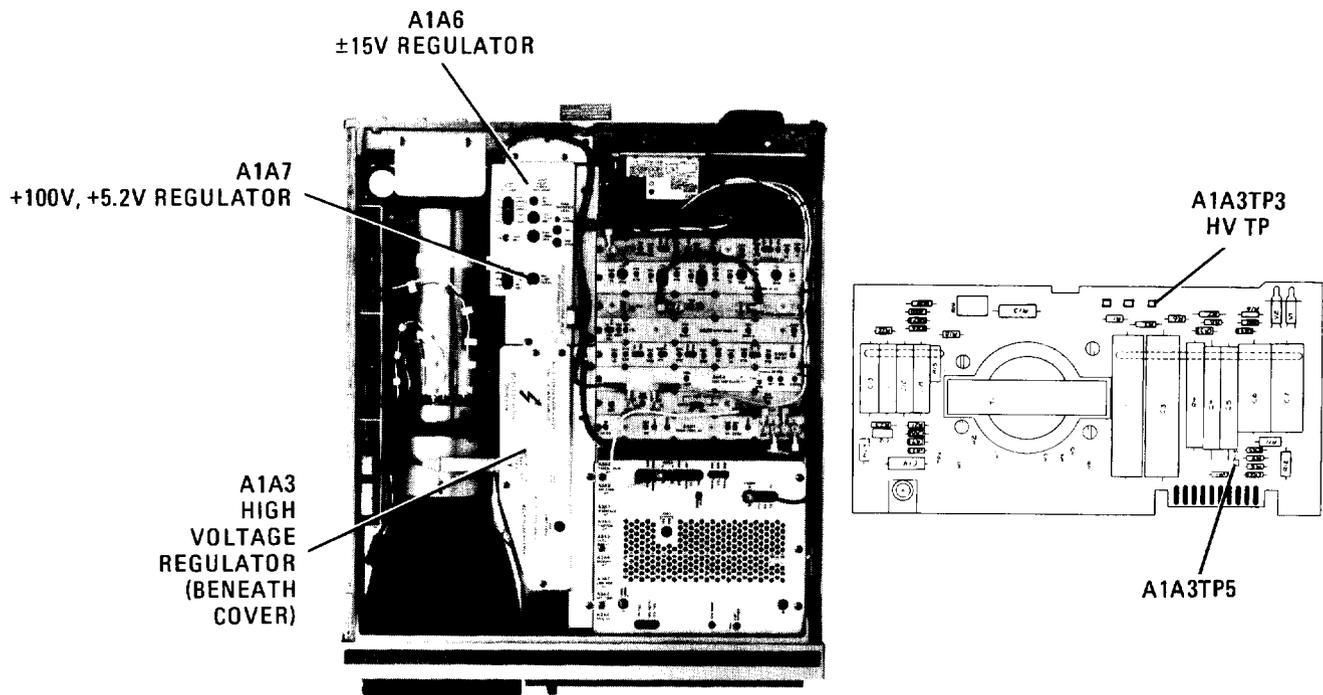

FIGURE 5. LOCATION OF HIGH AND LOW VOLTAGE REGULATOR ASSEMBLIES
10. Remove protective cover from the A1A3 High Voltage Regulator. Note the voltage from the label on A1A3T1 for use in step 14. Refer to Figure 5 for location of A1A3.
11. Connect high-voltage probe to A1A3TP3. Refer to Figure 5 for location of test point.